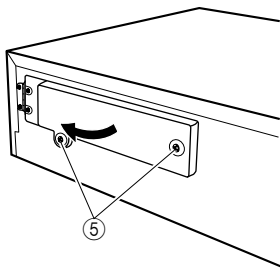

Fig. 2
- Loosen 2 screws (5) on the HDD slot door and open the HDD slot door. (Fig. 2)